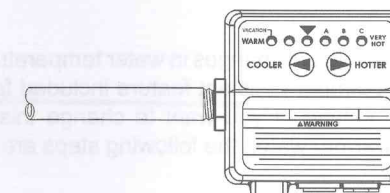

FIGURE 8.
12. Un-thread and remove the straight section of 1/2 inch diameter pipe that is attached to the Intelli-vent™ Thermostat Control being replaced and thread the pipe into the Intelli-vent™ Thermostat Control, (184960 Series), see Figure 8.